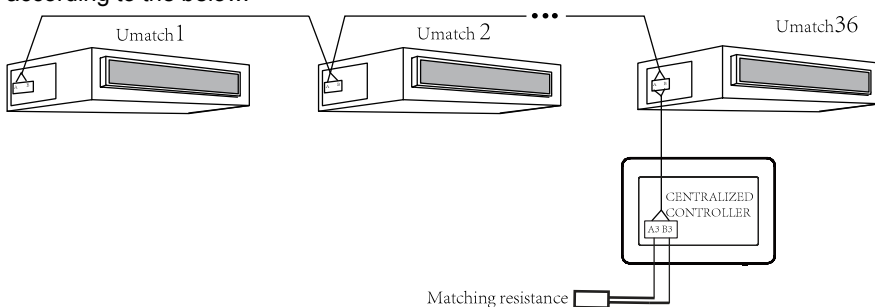

Figure 3-7 Centralized Controller Connected with Umatch Unit
- (1) The centralized controller is applicable to Umatch units, One centralized controller can control up to 36 Umatch units.
- (2) If the centralized controller is to be connected with Umatch units, connect according to fig.3-7. The controller must connect with terminal unit of Umatch system .Connect the centralized controller's A3 and B3 ports to COM_BMS port on the Umatch unitcorrespondingly with communication cords. A matching resistance needs to be added with the communication cords at the A3 and B3 ports. There are two COM_BMS ports (two core neilsbed and no polarity) on mainboard of Umatch unit, one for centralized controller and another for Umatch unit connection.